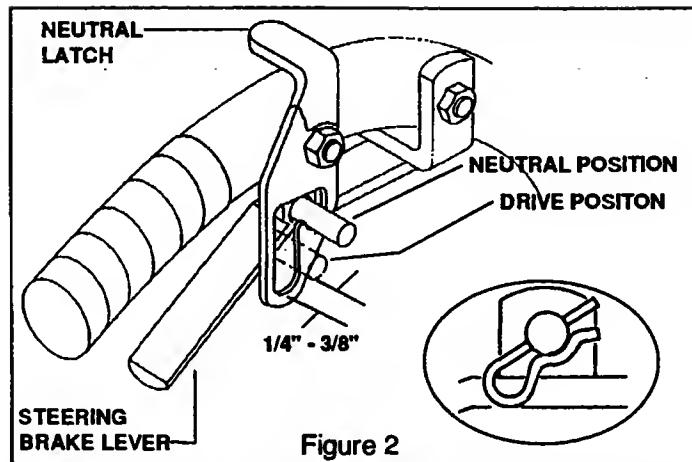

Figure 2
- b) Adjust the rods so that there is about a 1/4"-3/8" clearance to the bottom of the neutral latch slot when in the drive position. Secure with small hair pin cotter as shown (see fig. 2)
NOTE: Rods must allow neutral latches to be moved to the neutral position. (see fig. 2)
- Steering control rods should have about 1/4" clearance between the bottom of the slot and the bottom of the rod when the steering levers are released (See fig. 2).